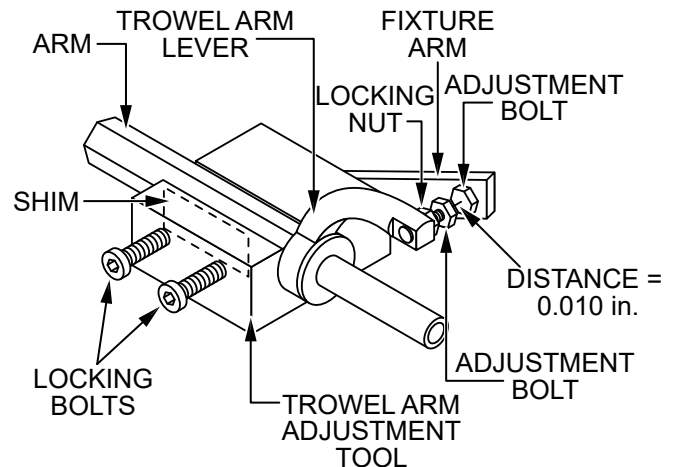

Figure 57. Trowel Arm Adjustment
4. Unscrew the **locking bolts** on the adjustment tool and place the **trowel arm** into the fixture channel as shown in Figure 57. A thin **shim** may be required to cover the blade holes on the trowel arm. Make sure to align the **trowel arm adjustment bolt** with the **fixture adjustment bolt**.
5. Tighten the **locking bolts** (Figure 57) with an Allen wrench to secure the trowel arm in place.
6. Loosen the **locking nut** on the **trowel arm lever** (Figure 57), then turn the **trowel arm adjustment bolt** until it barely touches (**0.010"**) the **fixture adjustment bolt**.